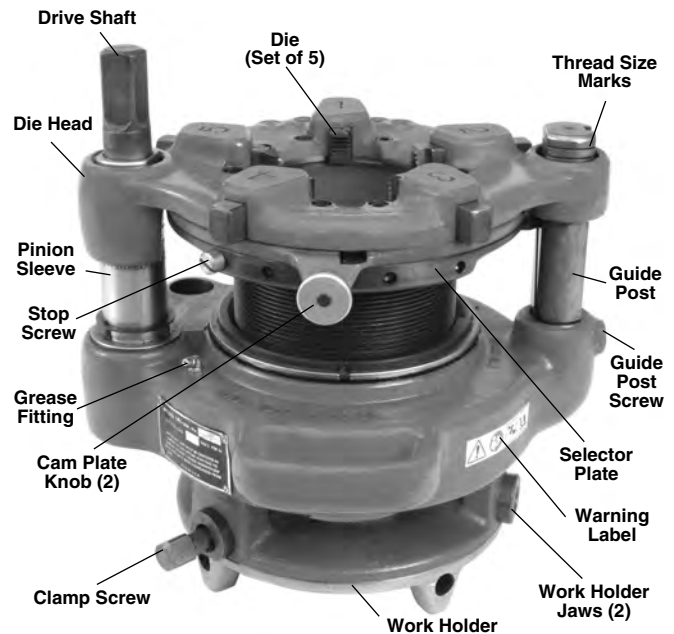

Figure 1 – Model 141 Receding Geared Threader
- Presence and readability of warning label (see *Figures 1 and 2*).